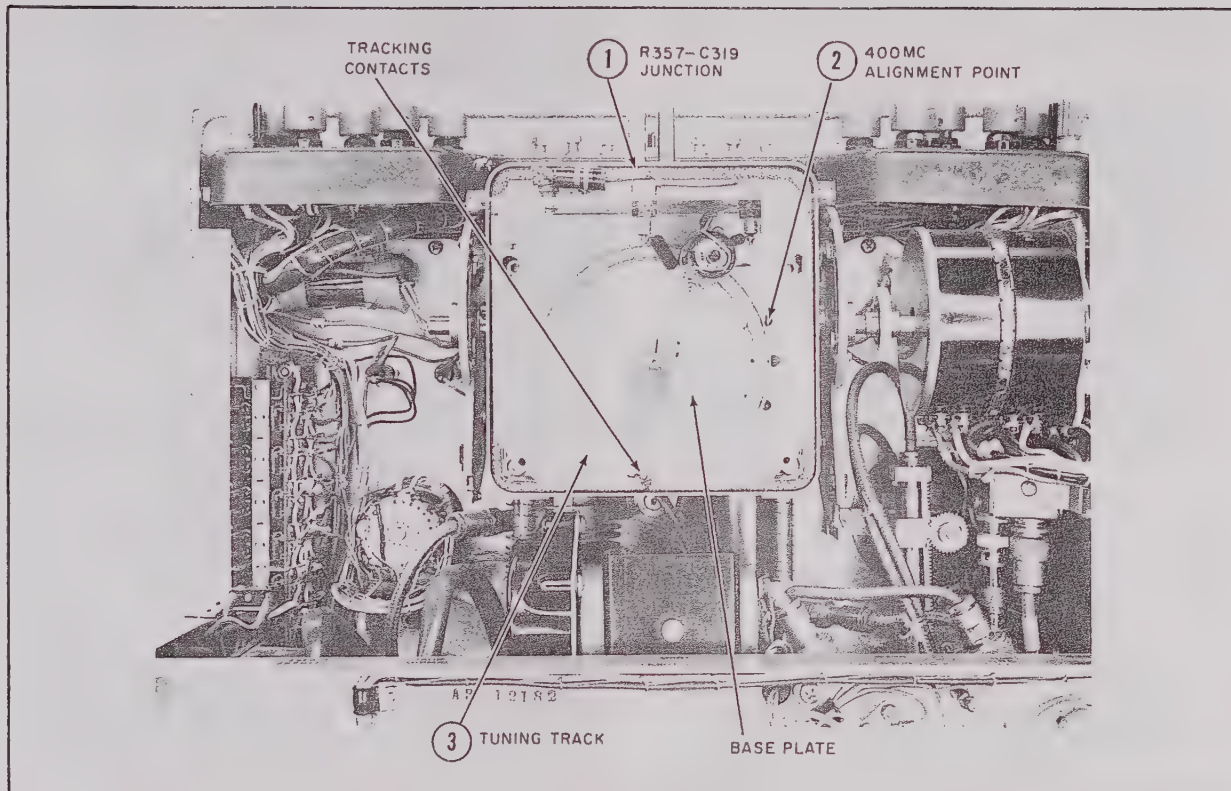

Figure V-22a. Triode Oscillator (Rear View) Ser. Nos. 151 - 250
A quick check to determine whether the triode oscillator tube needs replacement or the oscillator circuit needs repair is to measure the voltage at the junction of R357 and C319, Ref. 1, Fig. V-22a. Remove the oscillator cover, (see par. 1 (a) below) and depress RANGE #1 button. As the rotor arm is rotated through the range, the voltage at this test point should be approximately +35 volts; if the circuit is not oscillating the voltage will be approximately +25 volts.
(1) Loosen the tuning rotor arm by backing off on the setscrew just enough so that the arm may be turned by hand, but is still snug enough so that it will hold its position on the shaft.
(2) Set the dial pointer to the 400 mc mark and the signal generator to give a calibrated 400 mc signal at -65 dbm output. Move the rotor arm slowly until the signal covers the marker pip. This should occur at the 400 mc alignment location on the tuning track. (see Fig. V-22a Ref. 2).
(3) If this is the correct position of the rotor arm, the triode oscillator will be operating at 560 mc (160 mc above dial reading). To check that this is the correct setting, and not a spurious signal, perform the following procedure.